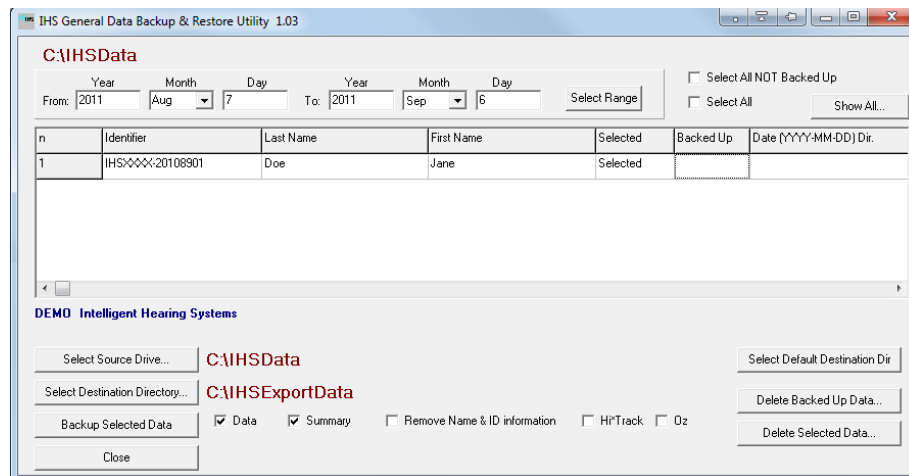

Fig. 7. - Backup and Restore Utility
2. When the Data Backup and Restore Utility (see Fig. 7 on page 12), click on the **[Select Source Drive]** button and choose the location of the patient file you want to restore.